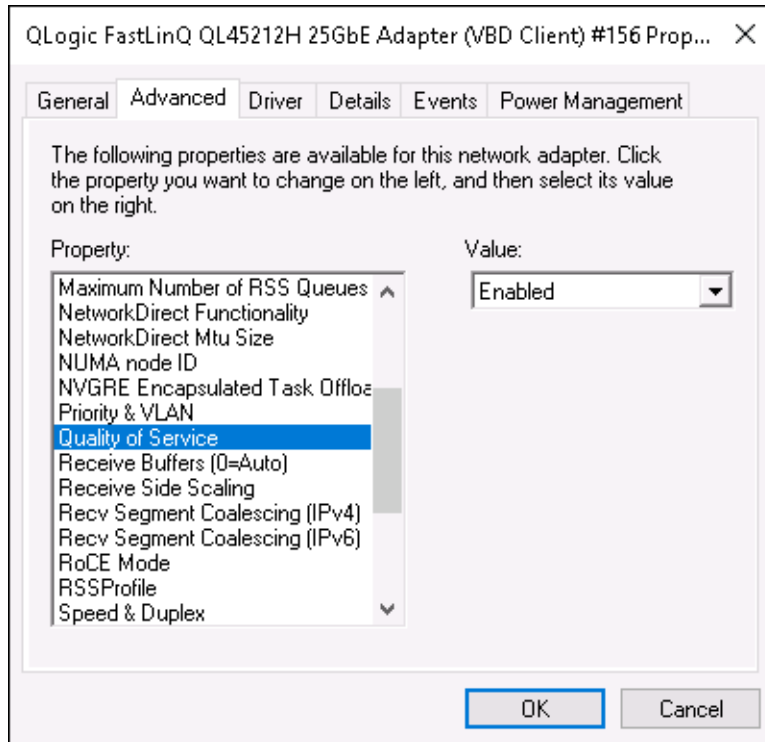

Figure 9-11. Advanced Properties: Enabling QoS
- a. On the adapter's Advanced Properties page (Figure 9-11) under **Property**, select **Quality of Service**, and then set the value to **Enabled**.